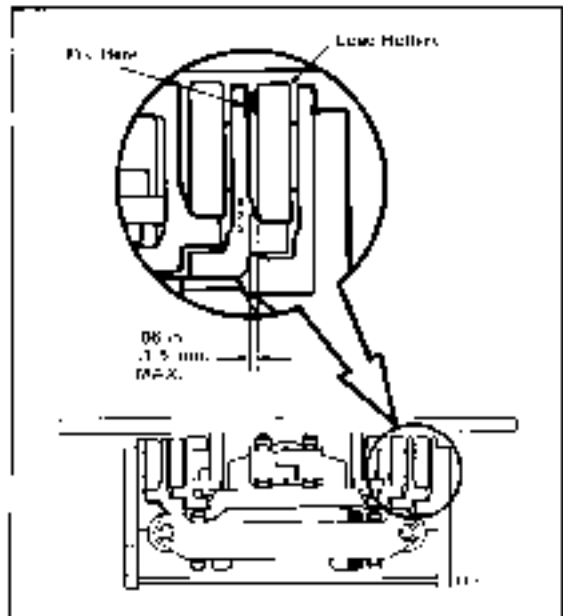

Figure 18. Load Roller Clearances.
1. Each pair of load rollers on the uprights and carriage should be shimmed so that a total side to side clearance no greater than 1/16 in. (1.5 mm) occurs at the tightest point throughout the travel of the member. Pry between the upright and load roller so that the opposite load roller is tight against the upright. Measure the clearance for the pair of rollers at XXX shown. See Figure 18.